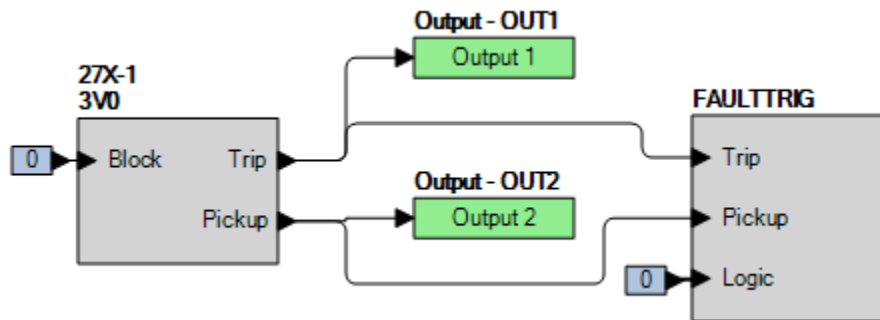

Figure 61-1. BESTlogicPlus Settings (3V0 Mode)
Step 2: Use BESTCOMSPPlus to configure the BESTlogicPlus programmable logic shown in Figure 61-1.
- Step 4: Prepare to monitor the 27X-1 function operation. Operation can be verified by monitoring OUT2 (see Figure 61-1).